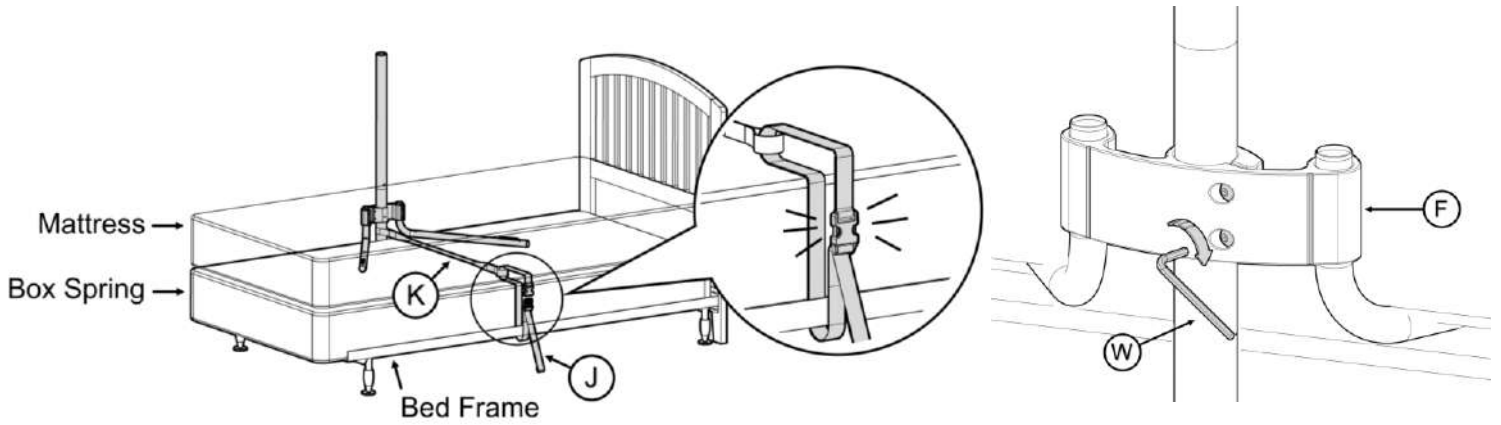

FIGURE 6
6. This step is for beds with box springs and platform bases, for other bed frames see step 7. Open buckles on **J** and loop one buckle around bed frame and snap buckles back together. Tighten strap **J** by pulling loose end of strap. Make sure main support is plumb (completely vertical). Tighten front screws in **F** until both are secure. **FIGURE 6**